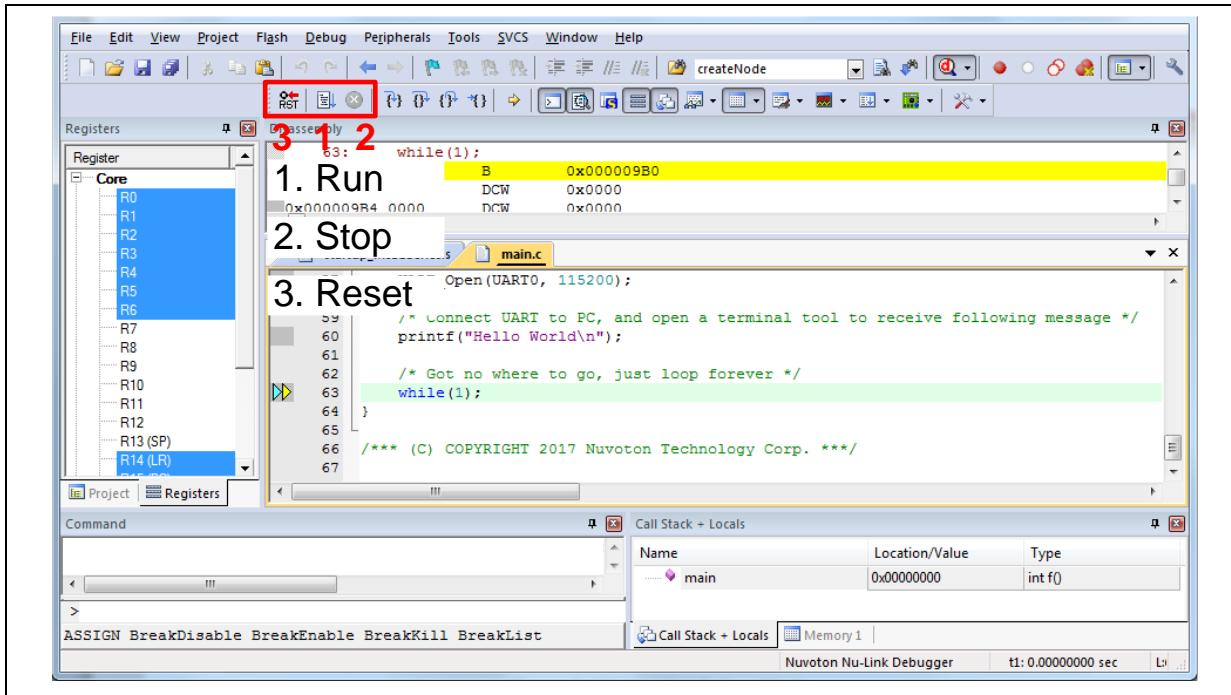

Figure 5-13 Keil MDK Debug Mode
4. Figure 5-13 shows the debug mode under Keil MDK. Click “Run” and the debug message will